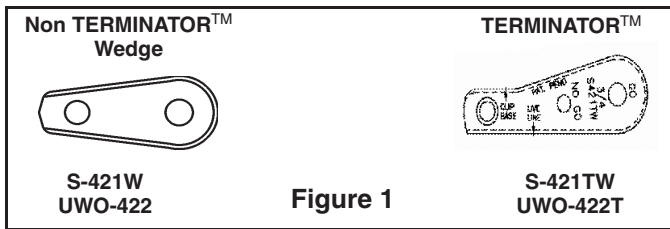

Figure 1
**NOTE:** The design of the basket for the S-421T 1-1/4" TERMINATOR™ Wedge Socket does not allow proper fit to the old style Crosby S-421W wedge (see Fig. 1). **Do not assemble or use.**
The design of the basket for each US-422T TERMINATOR™ Wedge Socket does not allow proper fit to the old style UWO-422 wedge (See Fig. 1). **Do not assemble or use.**